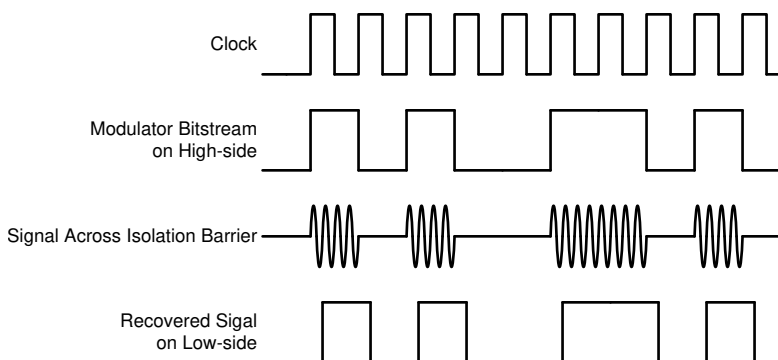

Figure 7-3. OOK-Based Modulation Scheme
The AMC3306M25 uses an on-off keying (OOK) modulation scheme, as shown in Figure 7-3, to transmit the modulator output bitstream across the SiO_2 -based isolation barrier. The transmit driver (TX) illustrated in the Functional Block Diagram transmits an internally generated, high-frequency carrier across the isolation barrier to represent a digital *one* and does not send a signal to represent a digital *zero*. The nominal frequency of the carrier used inside the AMC3306M25 is 480 MHz.
Figure 7-3 shows the concept of the on-off keying scheme.